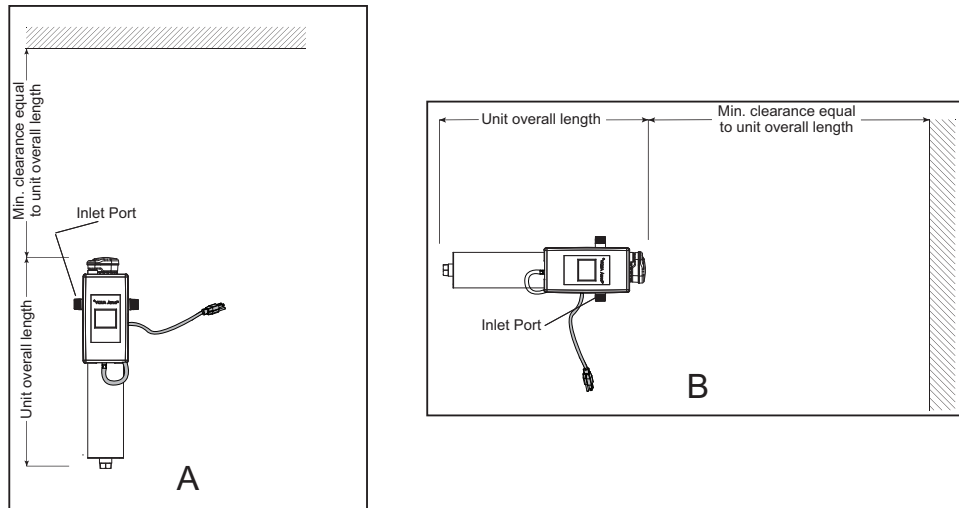

Figure 4 UV Installation - Vertical and Horizontal
- Select a suitable location for the UV system and its related components. As it is recommended to install a GFCI, make sure that this is taken into consideration prior to any installation. The system can either be installed vertically as shown in Figure 4 A, or horizontally as shown in Figure 4 B. However, the vertical installation is the most preferred method. When selecting a mounting location, leave enough space to allow the removal of the lamp unit (typically leave a space equal to the size of the chamber itself).